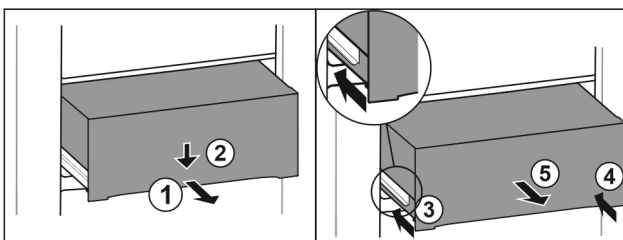

Fig. 114
- ▶ Pull out the drawer halfway. Fig. 114 (1)
- ▶ Press down the drawer on the front. Fig. 114 (2)
- ▶ Push in the left rail approximately 2 cm (13/16 in). Fig. 114 (3)
- ▶ Push in the right rail approximately 2 cm (13/16 in). Fig. 114 (4)
- ▶ Remove drawer to the front. Fig. 114 (5)